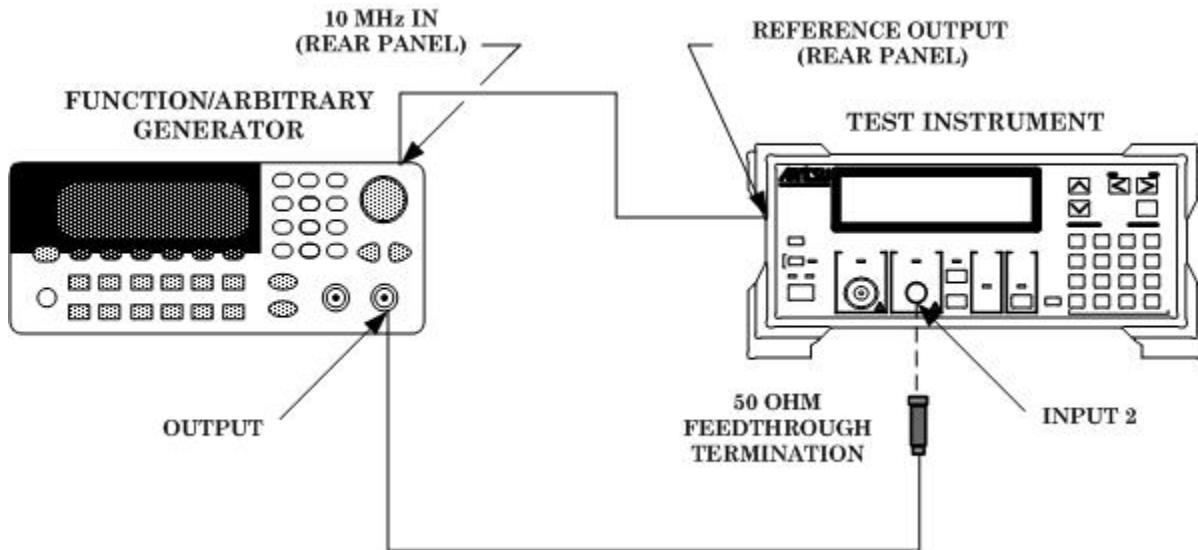

Figure 1. Input 2 sensitivity ($1M\Omega$).
(1) Connect equipment as shown in figure 1.